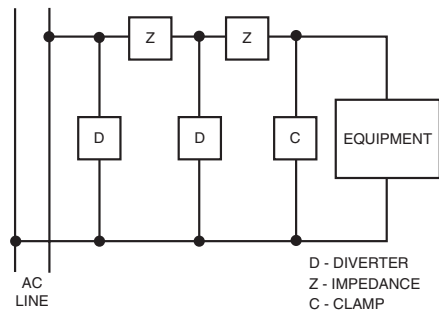
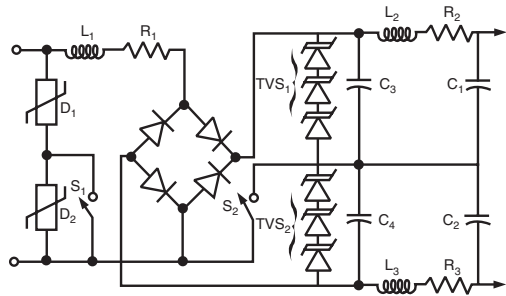

Figure 4. General Topology for a Protection Network
Figure 5. Circuit Providing a High Level of Protection
A general topology for transient protectors is shown in Figure 4 using the notations of Jacobus. The diverter devices handle high currents but do not offer a precise control of voltage; gas tubes and metal oxide varistors (MOVs) are typical diverting elements. The clamp devices have lower impedance than the diverters but have lower energy handling capabilities. A TRANSZORB™ Transient Voltage Suppressor (TVS) Diode is a typical clamping device. The series impedances shown semi-isolate the various diverter and clamp stages by causing a voltage drop between them. To meet the requirements of ANSI-IEEE C62.41, Category B, and provide low output voltage clamping, the topology of Figure 4 has proven to be quite effective.
After some experimentation, the network of Figure 4 has been found to work quite well when the first diverter is a MOV, the first impedance is composed of the inrush current limiting resistance and an inductor, the second diverter is a silicon Transient Voltage Suppressor and capacitor network, the second impedance is a series R - L circuit, and the clamping device is the filter capacitor.
Figure 5 (patent pending) shows a practical implementation of the circuit of Figure 4, which is virtually immune to transients. The resulting T filter network also attenuates high frequency noise in both directions, thus easing EMI filter requirements. Performance is shown in Table 3 when pulsed with 2500 A. The resulting 25 V peak transient appearing at the output is low enough to allow the use of 450 V rated transistors in the power switching section.
**TABLE 3 - TRANSIENT PERFORMANCE OF THE CIRCUIT OF FIGURE 5**
Only by ensuring a clean dc bus can a switching power supply be a reliable piece of equipment. Attention must be given to the lowly line rectifier and filter system to dramatically reduce line voltage transients. The circuit of Figure 5 provides a satisfactory clean DC level.